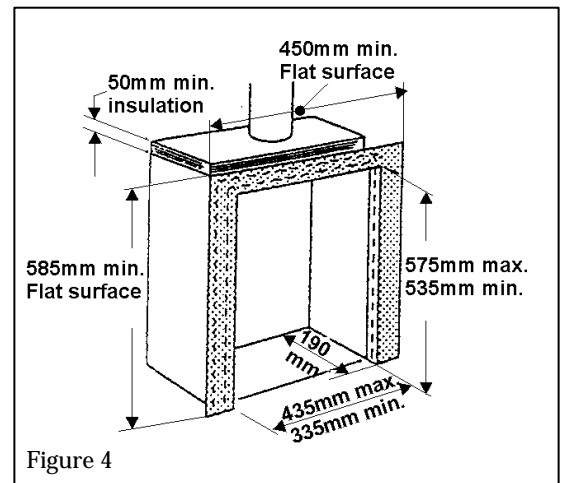

Figure 4
**2.11.3** A twin wall metal flue system conforming to BS715, the flue diameter being a minimum of 125mm (See figure 4) with a minimum internal diameter of 190mm. Incombustible mineral wool insulation of not less than 50mm thickness must be applied to the top surface of the system firebox and must stand on a non-combustible base of 25mm thickness.